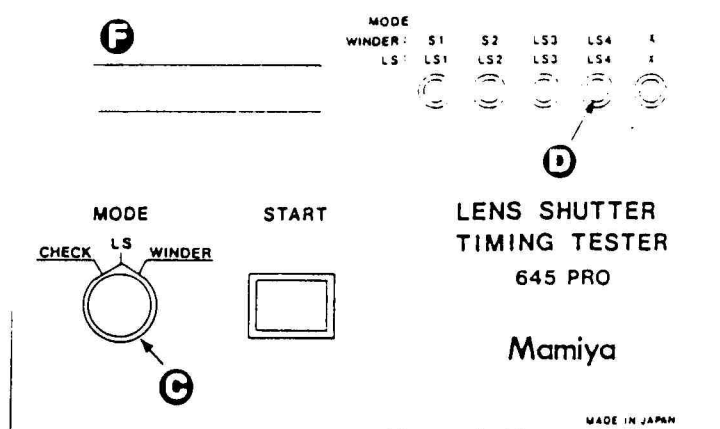

Fig.2
2. When the shutter speed ring is changed from "F" position to the lens shutter mode (30 to 500), the LED LS4 (D) lights up. (See Fig. 2.)
4. At this time, the S3 timing must be $3 \pm 2\text{ms}$ (F). (See Fig. 2.)